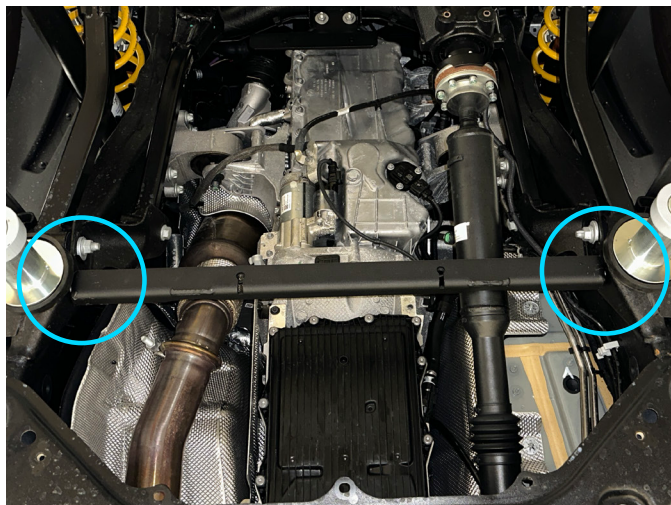
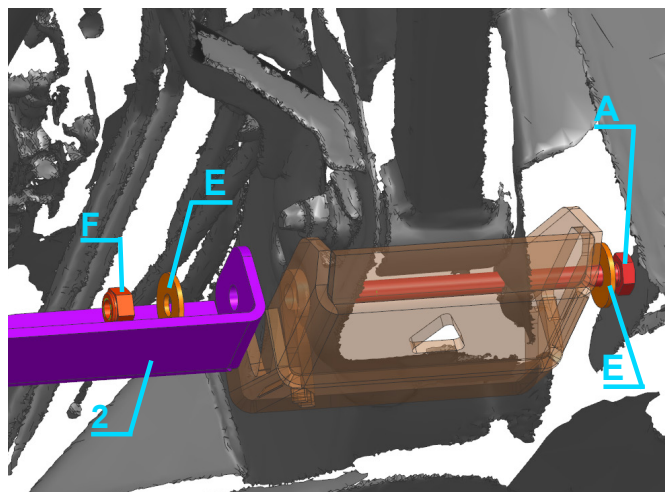

Fig. 5
Fig. 6
4. Slide the crossmember (item 2) and left side control arm skid into place. Loosely install M10x150 bolt, M10 washers and M10 nut (items A, E, F) as shown in Fig. 5 and Fig. 6. Do the same on the right side of the vehicle.